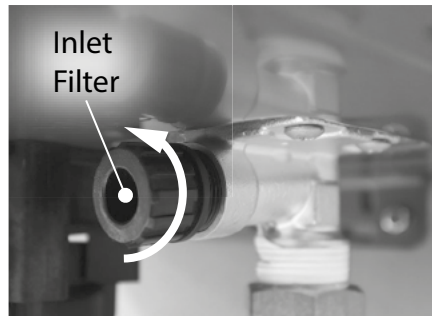

Figure 2 - Locate and remove inlet filter
- 8** Locate and remove the inlet filter as shown in Figure 2 to drain any residual water left in the system. Place a bucket or pan underneath inlet filter to collect water during removal.